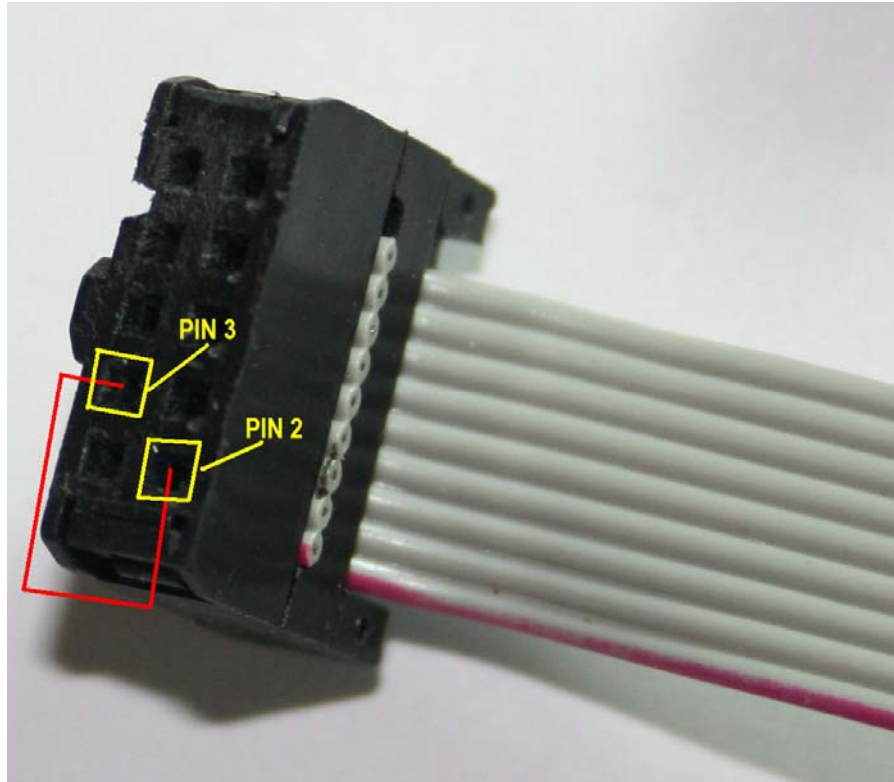

Figure 86. Serial Cable Loopback
1. Connect a wire across the TX and RX leads (Pins 2 and Pins 3) of the cable that plugs into the BeagleBoard (IDC Cable). **Figure 86** shows how this is done.